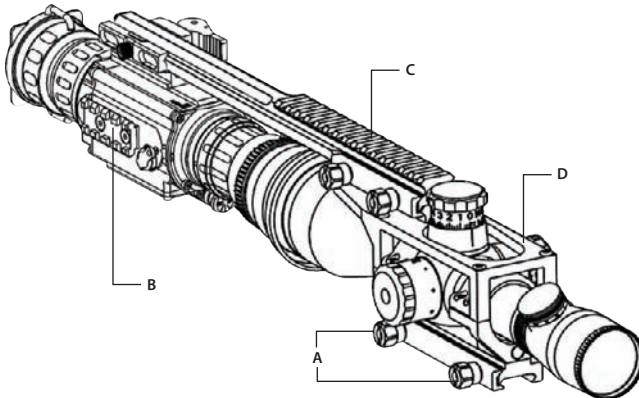

FIGURE 3-8. APOLLO AND DAY SCOPE MOUNTED IN FSRS SYSTEM
Figure 3-8 shows the Apollo and day scope mounted to the FSRS system.
- Install the bridge (B, Figure 3-8) on the bushes (I, Figure 3-8). After applying a small amount of thread lock to the threads, install and tighten the screws (C, Figure 3-8) using 3mm hex key.